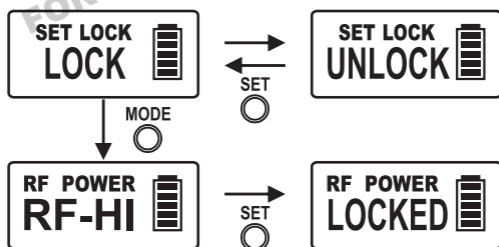

Fig. 10
7. Lock Setting, Fig. 10:
- (A) LOCK can be changed to LOCK or UNLOCK.
- (B) Press MODE button to access LOCK parameter. Press SET button, the parameters start flashing. Press SET button again, the parameter will change circularly. Press MODE button to save or the parameter saves automatically when flashing stops.
- (C) LOCKED mode indicates power button cannot work and mute function is normal.
- (D) Repeat same procedures to change back to UNLOCK mode. UNLOCK mode indicates power is operational.